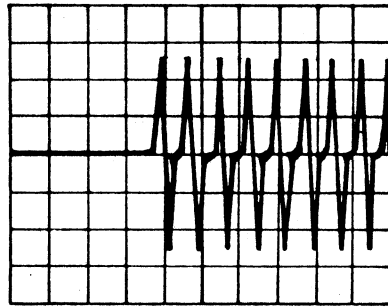

Figure 4-3. Index/Azimuth Alignment Waveform.
- 7) Measure the time between the leading edge of the index pulse and the first peak of the index alignment burst (see Figure 4-3). The time should be between 100 and 300 microseconds. If the time is not in that range, adjust the index alignment (see Paragraph d). Note the measured value, and then proceed to Paragraph e.